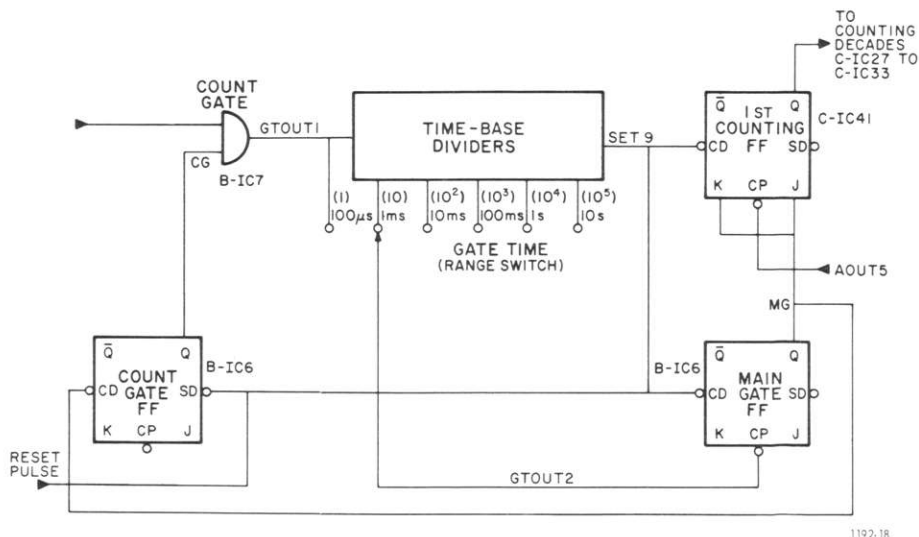

Figure 4-8. Block diagram.
**Quiescent.** In the FREQUENCY mode, decimal points D1, D2, D3 and D4 (Table 3-2) are used. These, along with the proper unit that is displayed in the window to the right of the digits, are selected by the position of the range switch. When the FREQUENCY pushbutton is depressed, the circuits are interconnected as shown in Figure 4-8. The GATE TIME (range) switch can be set for gate times between 100  $\mu$ s and 10s. The illustration shows a 1-ms setting.
#### 4.9.4 Period (Figures 4-8/4-10.)